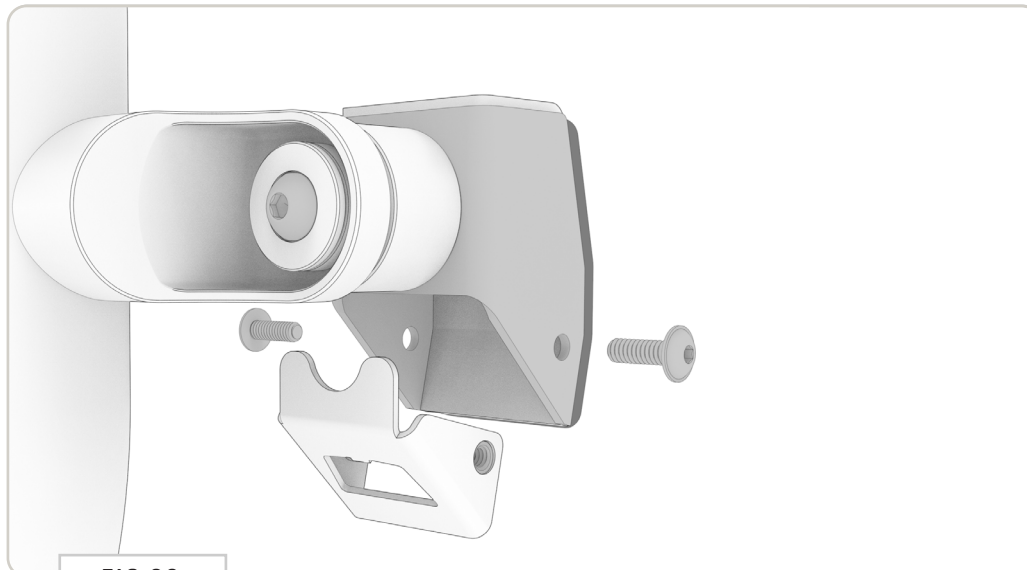

FIG 26
6.1 Bottle Opener: Attach the **Bottle Opener** to the **Third Mount Bracket** using (2) 1/4-20 x 0.75 Flanged Button Head Screws (FIG 26+27).